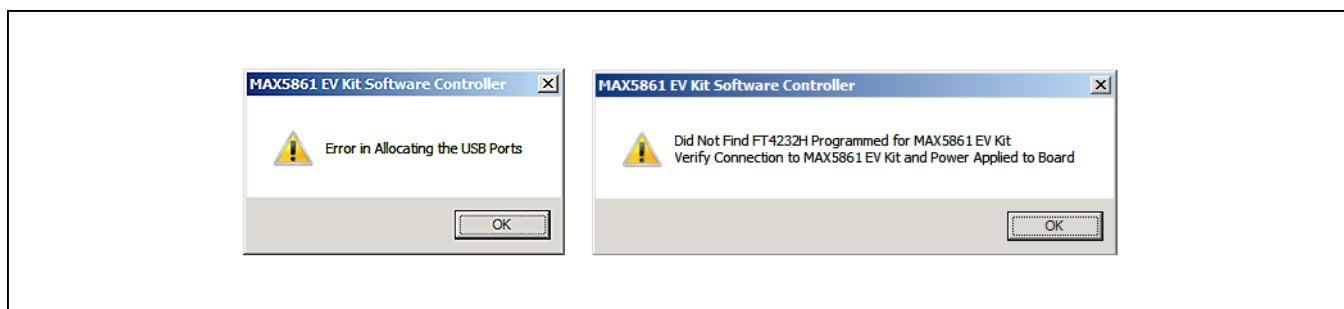

Figure 5. Error in Allocating USB Ports and Failed to Connect to MAX5861 EV Kit Windows
- ii) The EVKIT USB ports can take a few minutes to fully enumerate. If the ports have not enumerated yet, the error window shown in Figure 5 will appear.
USB communication to the FTDI microcontroller's SPI is verified upon execution of the MAX5861 EV kit Software Controller. If the USB is not connected or communicating to the interface correctly, a pop-up window appears (Figure 5).